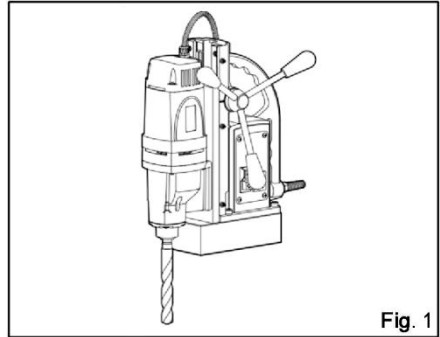

Fig. 1
1. Always use sharp drill bit. Twist drill bit can be installed on the drive spindle directly. **(Fig.1)**